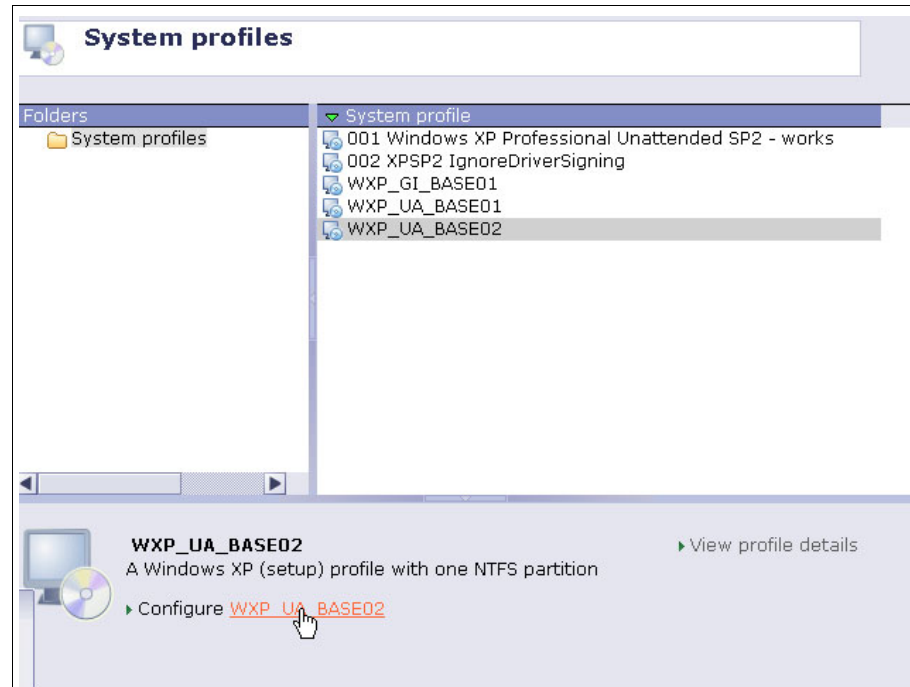

Figure 2-45 Select profile for editing
1. First, login to the Tivoli Provisioning Manager for OS Deployment console and select **OS Deployment** → **Profiles** and select the profile that needs the dynamic hostname. Select the **configure** button located at the bottom of the screen as shown in Figure 2-45 on page 50.